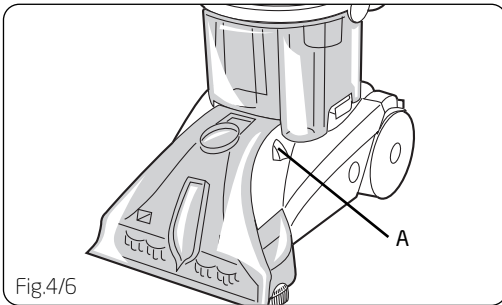

Fig.4/6
Slide setting selector (A) to the desired setting before cleaning (Fig.4/6).